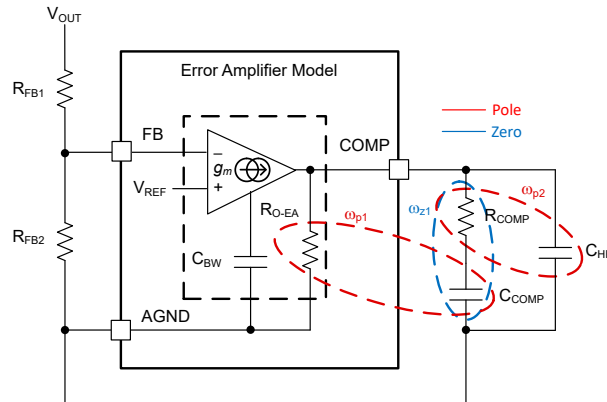

Figure 7-3. Error Amplifier and Compensation Network
Figure 7-3 shows a type-II compensator using a transconductance error amplifier (EA). The dominant pole of the EA open-loop gain is set by the EA output resistance, R_{O-EA} , and effective bandwidth-limiting capacitance, C_{BW} , as shown by Equation 25.